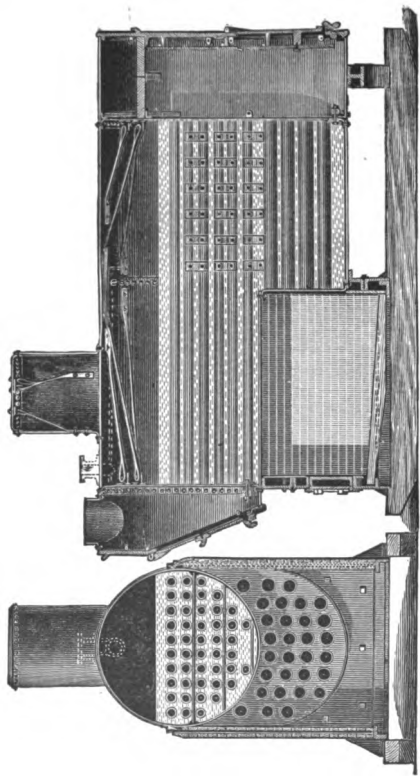

FIG. 55. — RETURN TUBULAR PORTABLE. (Erie City Iron Works.)
A. In the construction shown, Fig. 55, the furnace is lined with fire-brick, the front end is cylindrical, and extends from the furnace. The rear end is oval, the lower portion extending below the cylindrical front part far enough to hold the short tubes leading from the furnace to the back connection. The furnace can be detached from the boiler, the lining being held in place by iron rods.